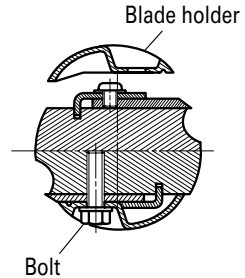

Fig. 12
- (2) Place the blade holder on the completed assembly, as shown in Fig. 12, and fasten it with the three bolts. Ensure that the bolts are securely tightened.